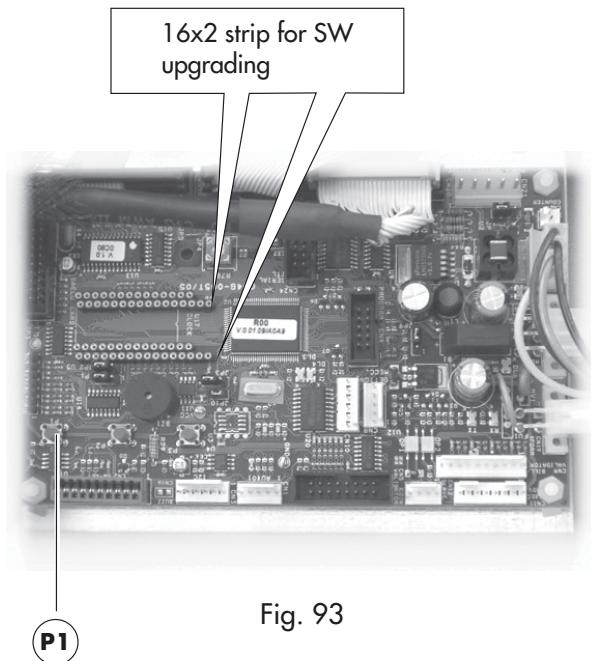

Fig. 93
- insert the external memory on the 16x2 strip (Fig. 93) with **PIN 1** notch turned towards the right;